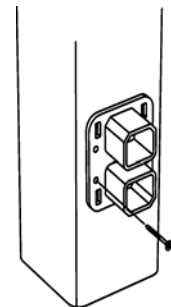

Fig.6
5. If attaching a railing to the post, predrill all holes and use screws that will penetrate at least 1/2" into post. For maximum strength, fasteners should penetrate the internal square post. See Fig.6.